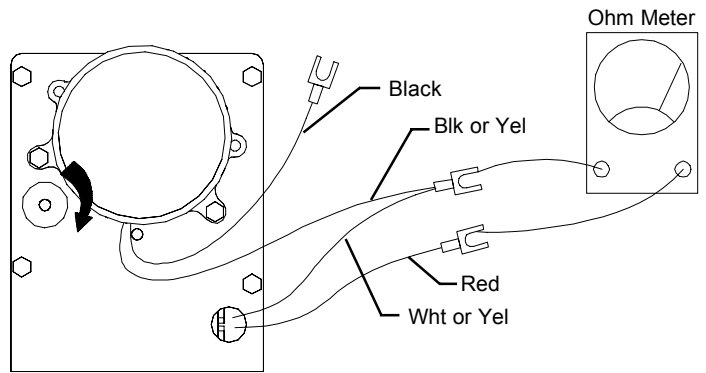

Figure 4
STEP 7: Turn the setting stem clockwise (Fig 4) until the ratchet internal to the movement prevents further rotation. This will back the minute hand to one minute past the hour. The meter should still read 'open'.